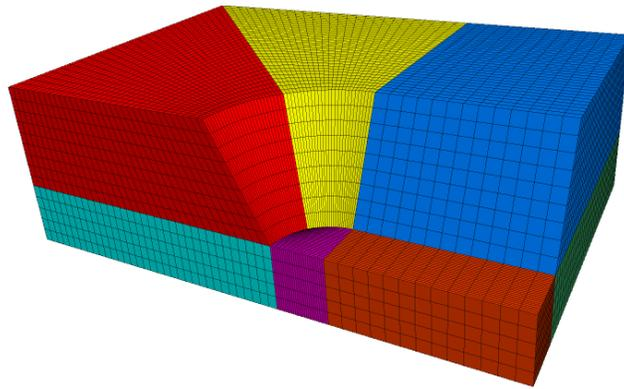

Figure 87: *BlockRanger* run with **MaxEdgeLength** = 3.0.
5. Selecting all solids, rerunning **BR** and setting **MaxEdgeLength** to **3.0** results in the grid in Figure 87.